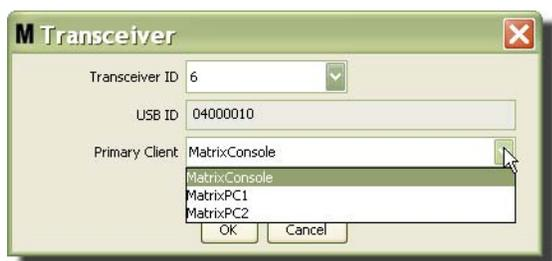

FIG. 104
- To modify the Primary Client assigned to a transceiver, click the arrow next to the Primary Client field to display the drop-down menu (FIG. 104). The purpose of assigning a Primary Client to a transceiver is to properly route Parts Room Authorization (PRA) requests from meters to proper PC client. If PRA mode is not being used, simply assign all transceivers to the default Matrix Console client.